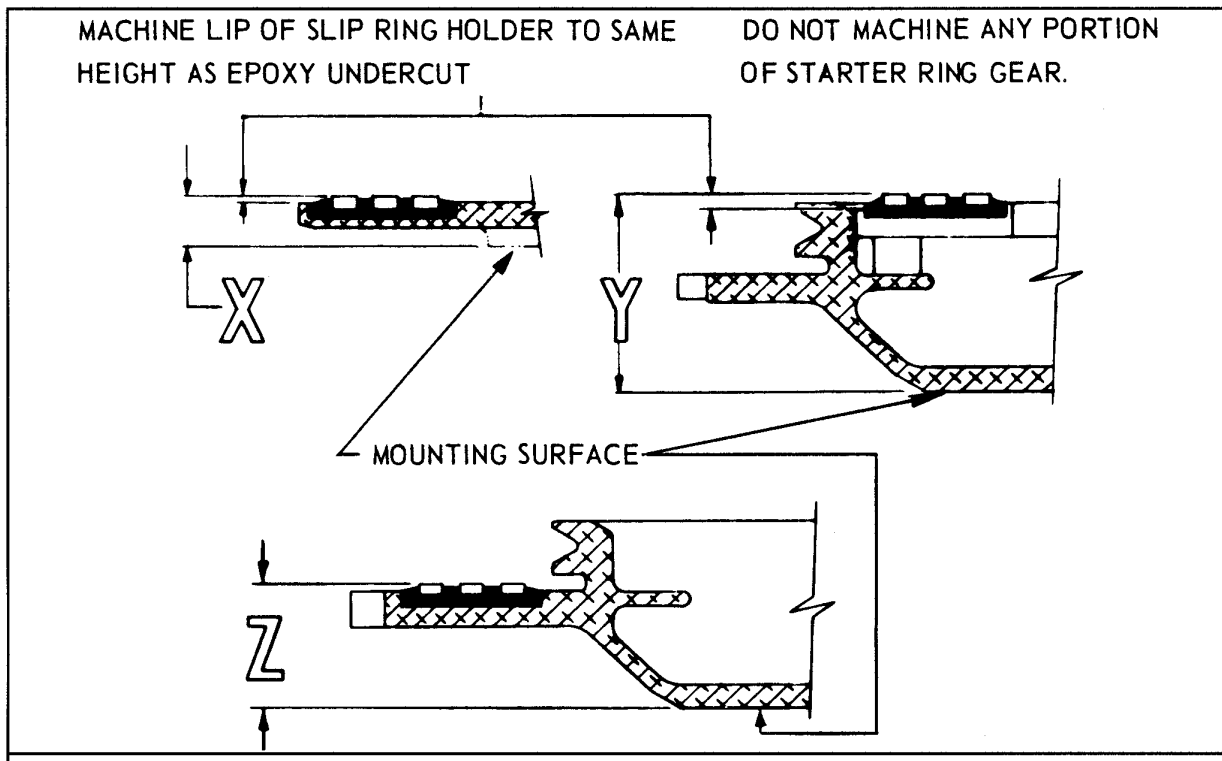

Figure 43 – Measuring Slip Ring Minimum Dimension
3. If there are grooves deeper than .007" reface the unit at the next opportunity per the procedure below. To assure that sufficient slip ring material remains to reface, measure the X, Y or Z dimension as shown in **Figure 43, page 37**, and compare it to the minimum dimension in **Table 2, Slip Ring Minimum Dimension Chart, page 38**.